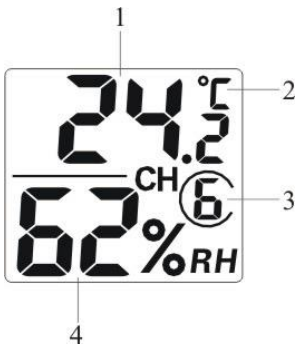

Figure 9
6. Verify the correct channel number (CH) and temperature units of measure (°F or °C) are on the display, as shown in Figure 9.